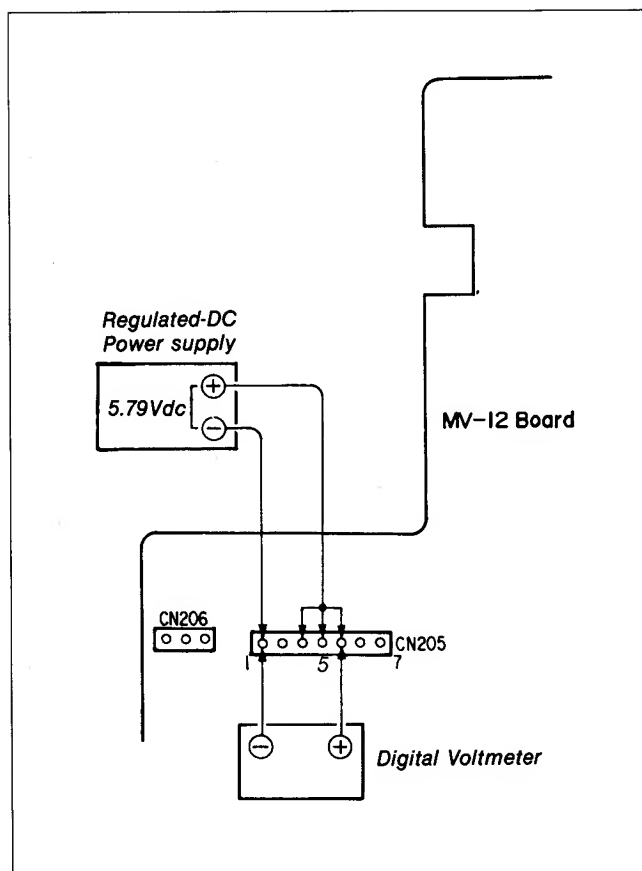

Fig. 9-3.
- 2) Connect the regulated DC power supply as shown in Fig. 9-3.